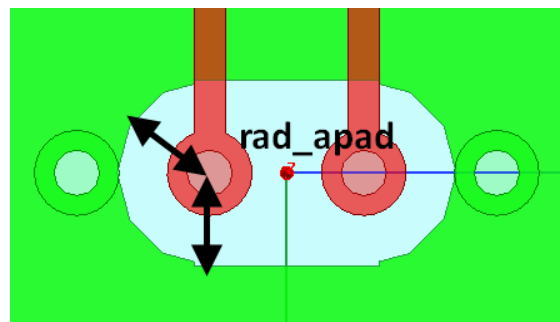

Figure 3. Design of anti-pad
4. The anti-pad should be designed for both signal vias as shown in Figure 3